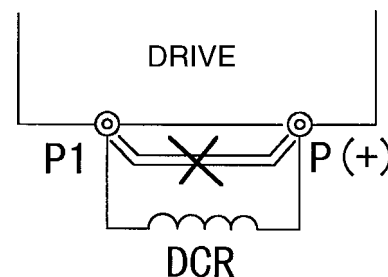
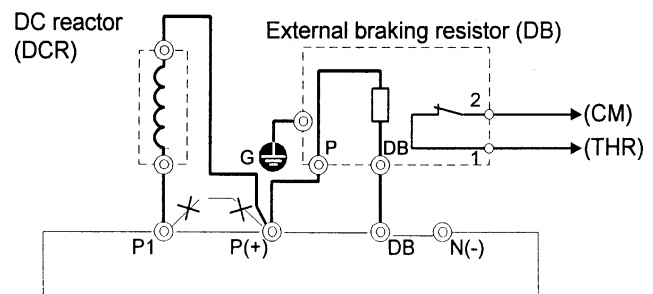

Fig. 2-3-3
Fig. 2-3-4 Connection (15HP or less)
2. When you need to connect source type logic, refer to Basic Connection Diagram Fig. 2-3-3 (page 2-6) and Fig. 2-3-4 (page 2-7) and Technical Information Manual. (Sink Logic is commonly used in the USA and Source Logic is commonly used in Europe.)
(5) Others